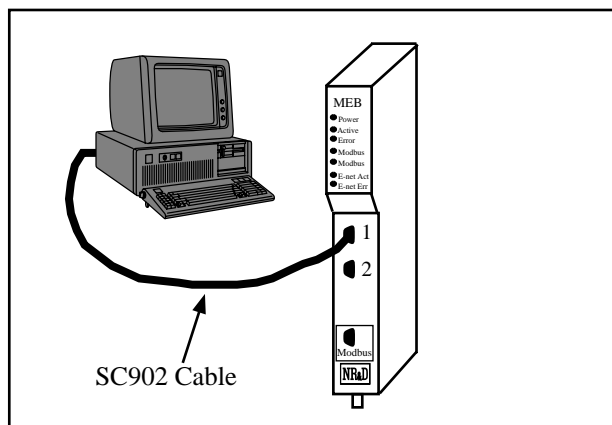

Figure 24-19 MEB Firmware Download
- 6 Connect the personal computer to the Port 1 of the MEB. An SC902 cable provides a convenient method for the RS-232<->RS-422 conversion. (See Figure 24-19)